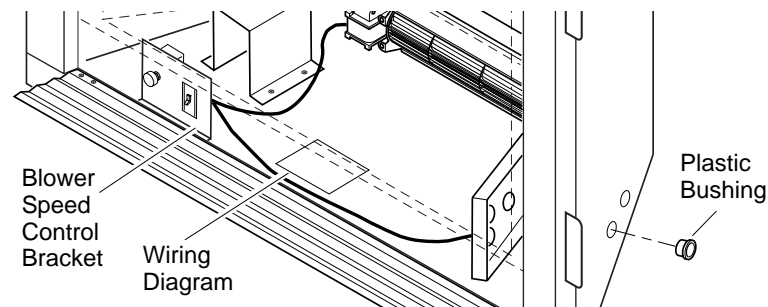

Figure 34 - Installing Plastic Bushing and Wiring Diagram Sticker
- If your fireplace system is installed as a freestanding unit with an accessory mantel, determine whether the power cord will exit the left side or the right side of the firebox. Install one plastic bushing provided into the 1 1/2" hole in the outer casing through which the power cord will exit. Install the second plastic bushing provided into the floor support bracket if exiting through the right side (see Figure 34). Route power cord through (both) plastic bushing(s) and plug the power cord into a properly grounded 3-prong wall receptacle near the firebox.
10. Peel off the backing paper and stick the supplied wiring diagram decal on the firebox bottom approximately 3" to the right of the blower speed control bracket (Figure 34).